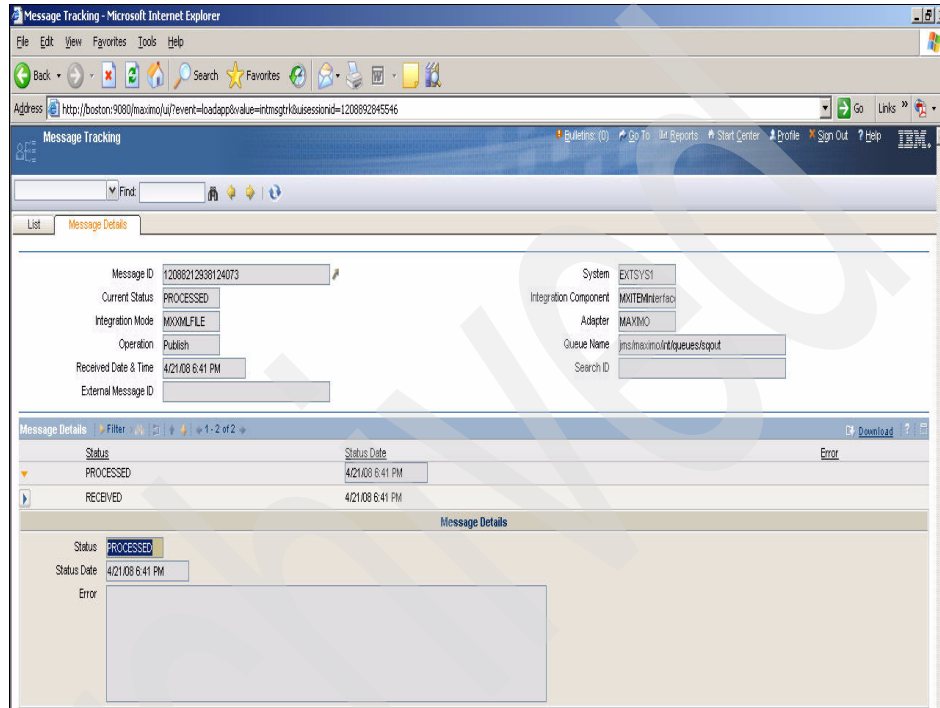

Figure 8-65 Message Tracking application - sample detail message view
- b. Select the message from the Message Tracking application to view the message content (see Figure 8-65).